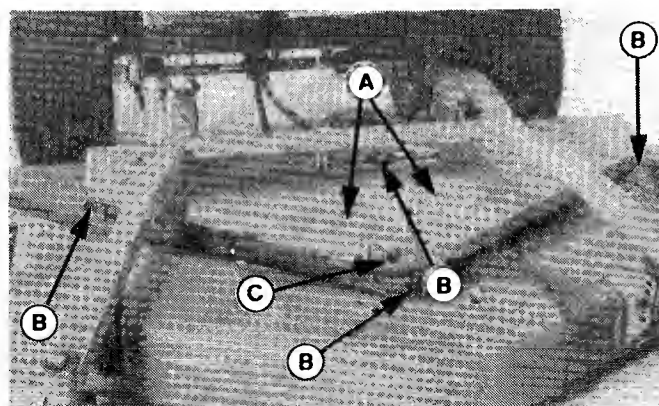
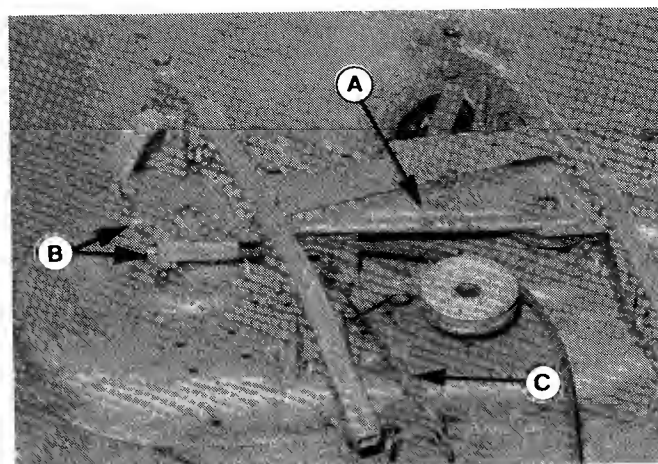
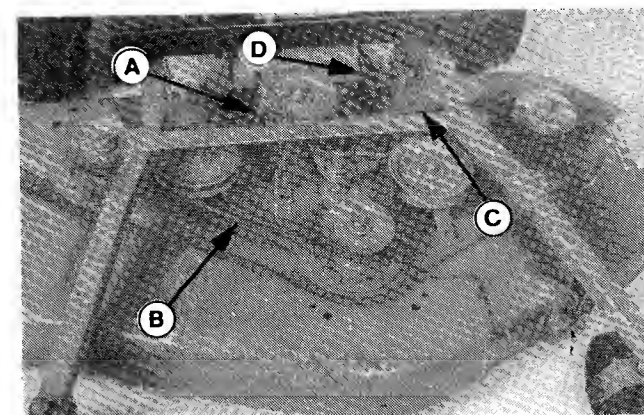

Figure 14A. Belt Covers (42" Mower)
Figure 14B. Belt Cover (36" Mower)
Figure 15. Mower Belt (42" Mower Shown)
2. For the 42" mower remove the two belt covers (A, figure 14A) by removing nuts and washers at four locations (B) and one screw (C). For the 36" mower, remove the two screws at each end of belt cover (A, figure 14B).
3. Remove belt from pulleys (figure 15) and install new belt, routing as shown. See belt pattern in figure 11A or 11B on page 16.
5. Engage the PTO lever and adjust the mower belt stops (figure 15) and idler pulley belt guide (figure 11A or 11B) 1/16 to 1/8 inch from belt and tighten.
6. Notice the brake location (C, figure 15). Be sure the belt is located so that it is trapped between fixed bracket and the PTO rod bracket when PTO lever is placed in disengaged position.
1. Locate the mower PTO spring on the PTO rod. For 36" mower, see item C, figure 14B, on page 25. For 42" mower, see item D, figure 15, on page 25. For the 42" mower, remove left-hand belt cover, if desired, for ease of access.
5. Reinstall the belt covers with nuts and washers at four locations (B, figure 14A) and one screw (C). Notice that channels inside covers act as belt guides. There should be clearance between covers and belt when PTO is engaged.